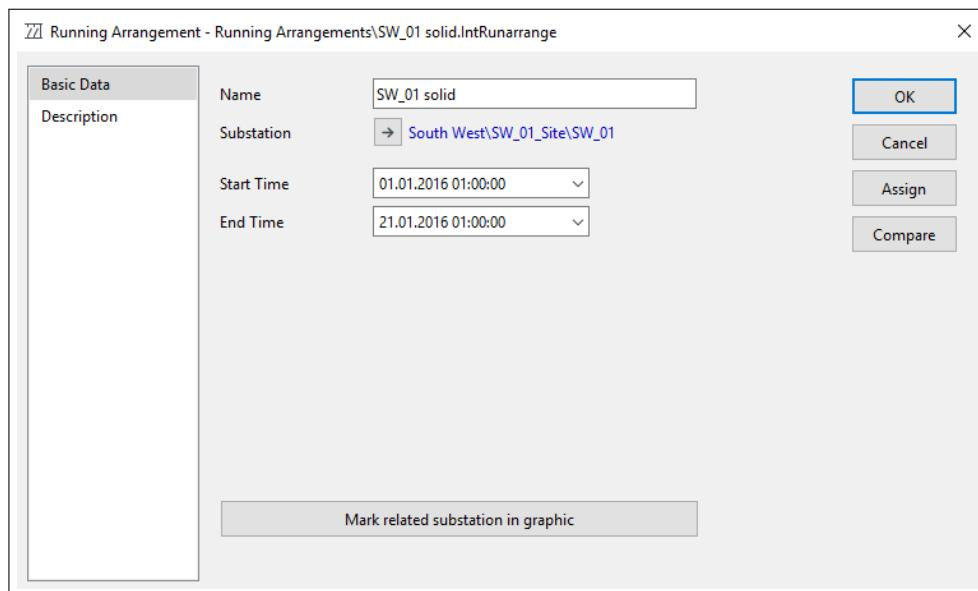

Figure 14.3.2: RA object dialog
*Running Arrangement* objects  store operational data (switch status) for a single substation. As shown in Figure 14.3.2, a *Running Arrangement* uses a reference to the substation object (*ElmSubstat*) whose switch statuses are stored. A *Start Time* and *End Time* is used to specify the validity period of the *Running Arrangement*. Running arrangements are stored in the *Running Arrangements* folder in the Operational Library.